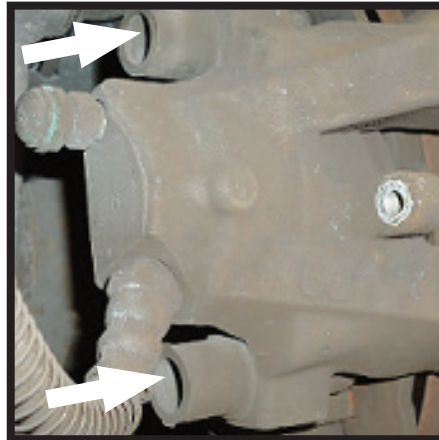

FIGURE 7
8. LOOSEN THE TWO (2) BOLTS ON THE BACKSIDE OF THE BRAKE CALIPER. (FIGURE 7)